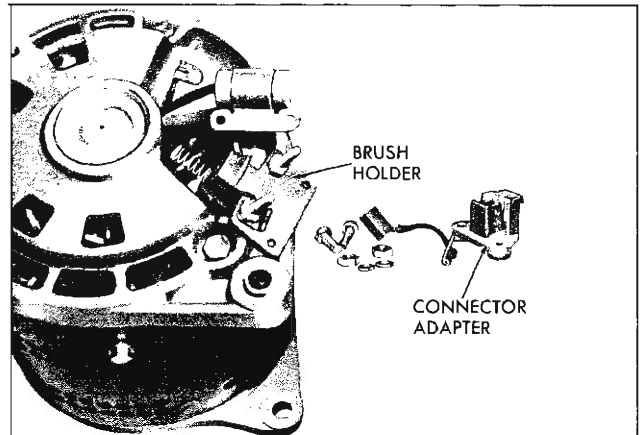

Fig. 22—Wire Lead Location
1. Remove two nuts retaining the blade connectors and remove the connectors (fig. 22). Slide the indicator light relay wire from the terminal post.